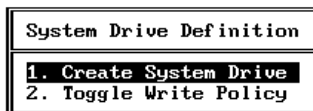

Figure 3-3. System Drive Definition Menu
1. Select **Define System Drive** from the View/Update Configuration menu. The System Drive Definition menu (Figure 3-3) will appear.